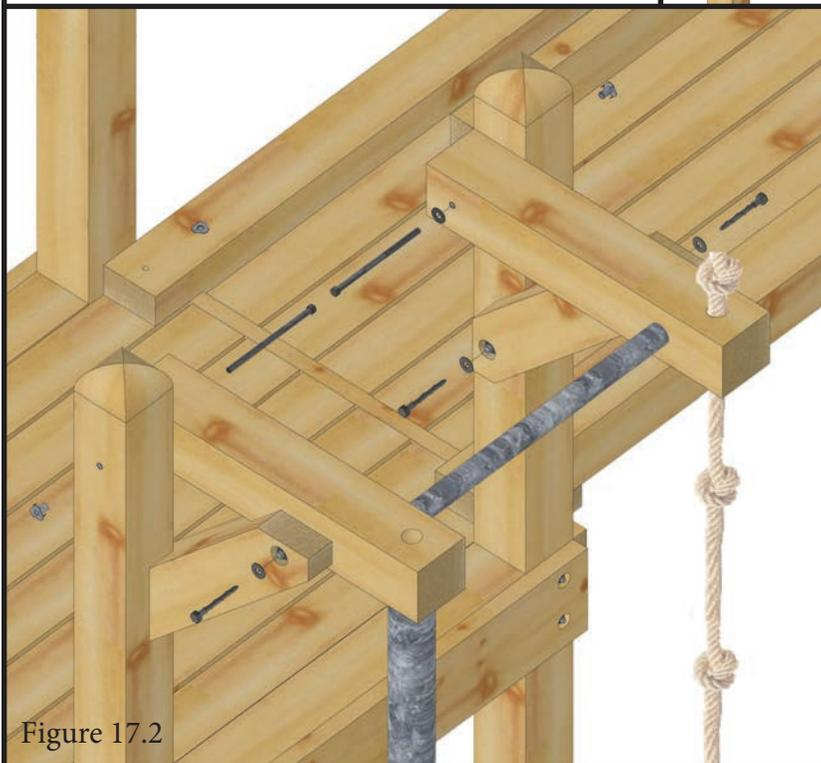

Figure 17.2
17.1 Fasten Firepole Beams into Tower posts with 5/16 x 6 Hex Bolts with 5/16 washer into T-nuts as shown in Figure 17.2. Make sure the Firepole holes are facing down.
17.2 Fasten Slim Sams to Tower Posts and Firepole Beams with 5/16 x 3 Lag Bolts with 5/16 washer as shown in Figure 17.2.